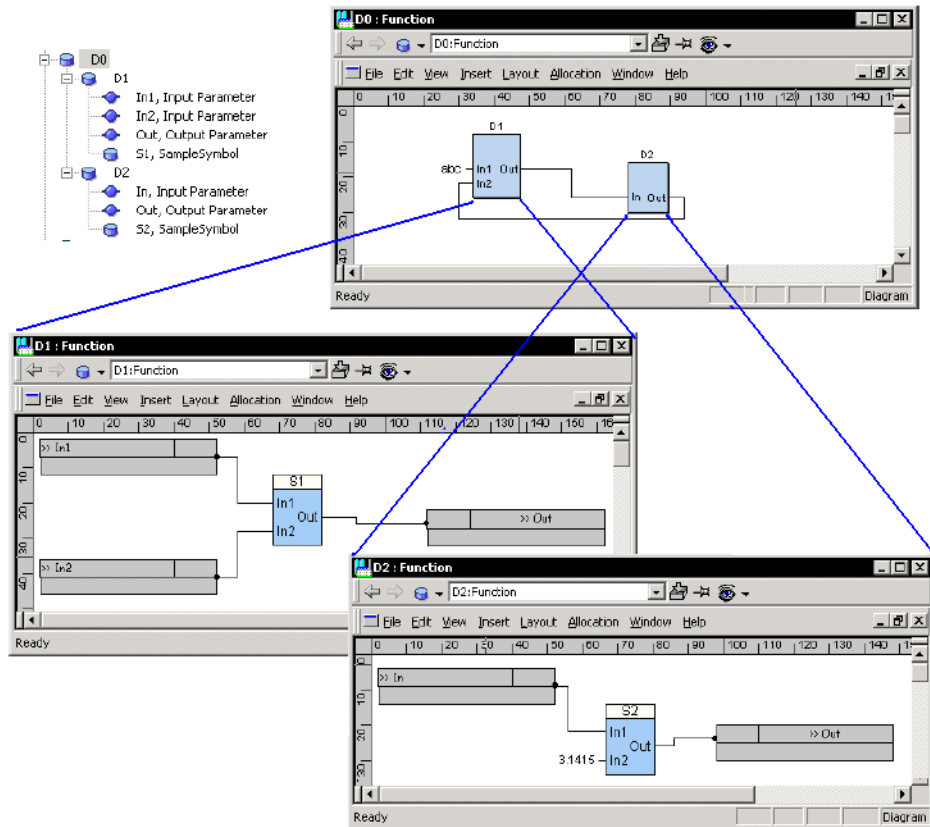

Figure 310. Child Diagrams
- child diagrams in Functional Structure, see Figure 310 and
In Figure 310, an overview diagram D0 and two child diagrams D1 and D2 are available. The diagram parameters D1:In1, D1:In2, D1:Out and D2:In, D2:Out